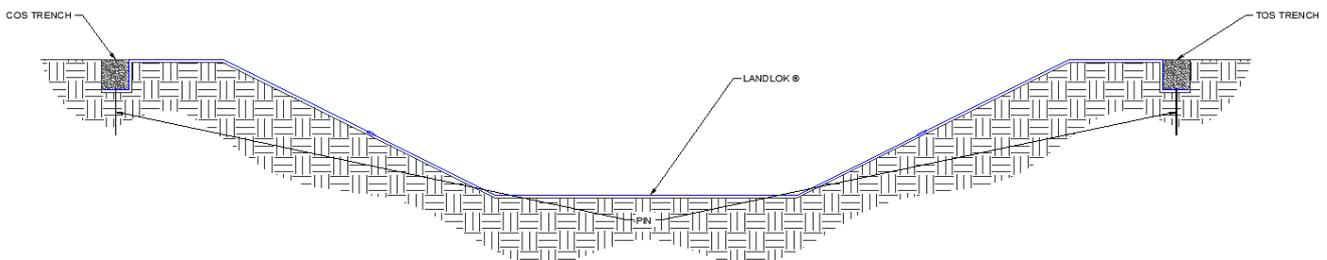

Figure 17: Crest of Slope (COS) Trenches Complete
1. Starting with the downstream end of the site select one of the COS trenches to begin the **PROPEX** Landlok TRM laydown process. To ensure proper anchoring of the overlapped areas the proceeding roll width must be laid out before the current roll width can be anchored with exception to the final roll width at the TC trench. For straight sections of a channel, TRM panel lengths should be long enough to construct both COS trenches while also covering the surface of the channel being armored. (Figure 17) Panel edges should rest perpendicular to the channel center line. For best results, panels of **PROPEX** Landlok TRM should be continuous and free from seams or roll end overlaps that are parallel to the centerline of the channel. Panel edge overlapping should follow a pattern of placing each proceeding panel's edge ovetop the previous panel edge, shingling the panels in the direction of the water flow.
11. Secure **PROPEX** Landlok TRM with pins in the opposite COS trench. Suggested placement of pins for the opposite COS trench is along the bottom of the trench on 12 in (300 mm) centers (Figure 17).
12. Backfill and compact the opposite COS trench in the location of the first TRM panel only (Figure 17).